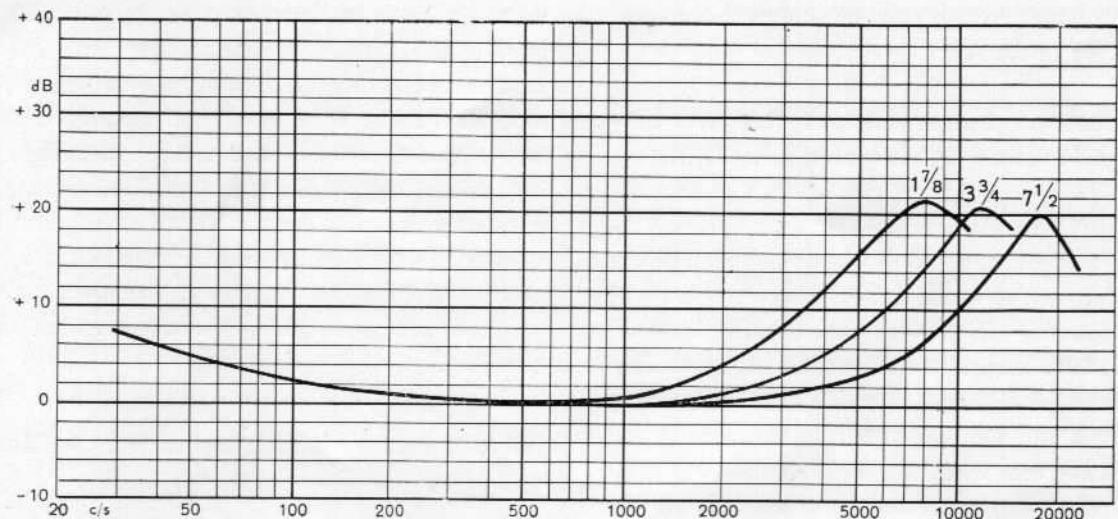
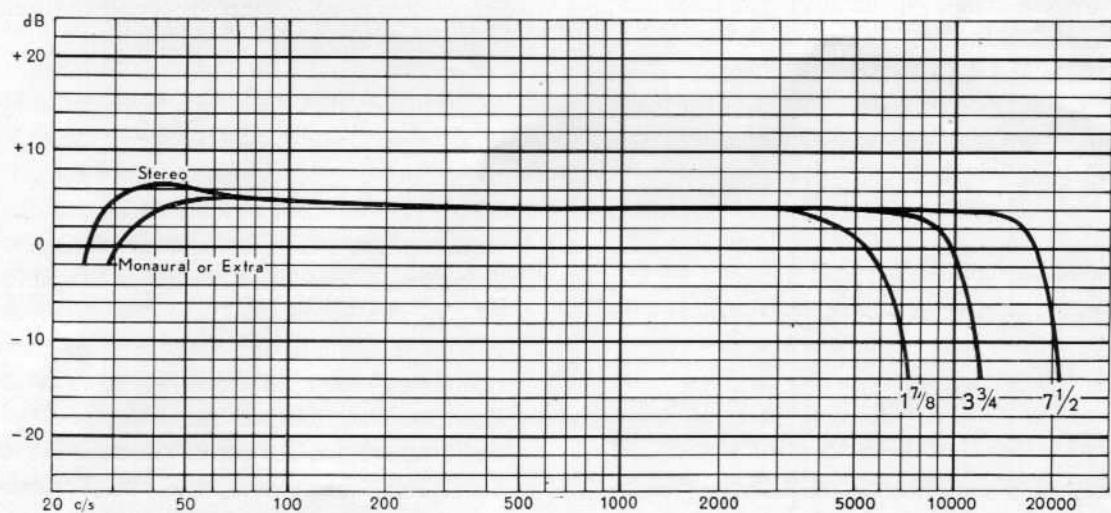

Fig. 3.
Fig. 5.
The decrease in gap width has made it possible to change to 100 μ S playback equalization curve at $3\frac{3}{4}$ ips and 250 μ S at $1\frac{1}{8}$ ips and yet increase the frequency response. The redesigning of the head together with the two potentiometers R21 and R21B has reduced the Q value of the head and decreased the resonance peak both in playback and recording. The decrease in Q value is wanted in playback because the reduced gap reduces the playback losses. To obtain correct preemphasis in recording position, a resonant circuit has been introduced in the feed back loop in recording position. This resonant circuit (L5—C9) is placed in the cathode of the first triode of ECC83 and is tuned to approx. 18 000 c/s at $7\frac{1}{2}$ ips. By means of C9B and C9C this peak is changed to approx. 12 000 c/s and 8 600 c/s at $3\frac{3}{4}$ ips and $1\frac{1}{8}$ ips respectively. By means of the core in L5 minor corrections at the high frequency response can be made. Fig. 3 and 4 shows the frequency response of the record and playback amplifiers at different speeds. Fig. 5 shows the total frequency response of the Recorder.
2. Adjust the oscillator frequency rejector circuit L1 (27.1). See photographs S.M. Fig. 17 and 18 and schematic S.M. Fig. 5. The V.T.V.M. is attached to point P in schematic S.M. Fig. 20 and should indicate about 5 volts when the circuit is adjusted for minimum.
2. The frequency response curve of the recording amplifier. In the position for recording, the frequency response of the upper track amplifier is changed by changing the speed. Drive the amplifier with a voltage corresponding to 20 dB below maximum recording level. The response curves should be as shown in Fig. 3, curves $7\frac{1}{2}$, $3\frac{3}{4}$ and $1\frac{7}{8}$. The response is checked at all three speeds. The sensitivity at 1000 c/s should be between 100 and 200 mV across the input terminals in back of the recorder, when the voltage across 1000 ohms in series with the head is 90 to 110 mV and the volume is set to max.
The above comparisons apply to the 7½ ips speed since the equalization curves at this speed are unchanged. At 3¾ ips and 1½ ips a much greater improvement in noise level is obtained by changing the playback equalization curves. As will be seen from Fig. 3 this improvement has to a certain extent increased the risk of overloading the tape at the higher frequencies. One disadvantage with the Model 5 compared with the Model 3 Stereo is that the Model 5 requires a better adjustment of the tape path, and therefore faults may be caused by improper tape transport. Another difficulty is the erasing in STEREO position. There is a rather critical balance between sufficient erasure and unwanted erasure